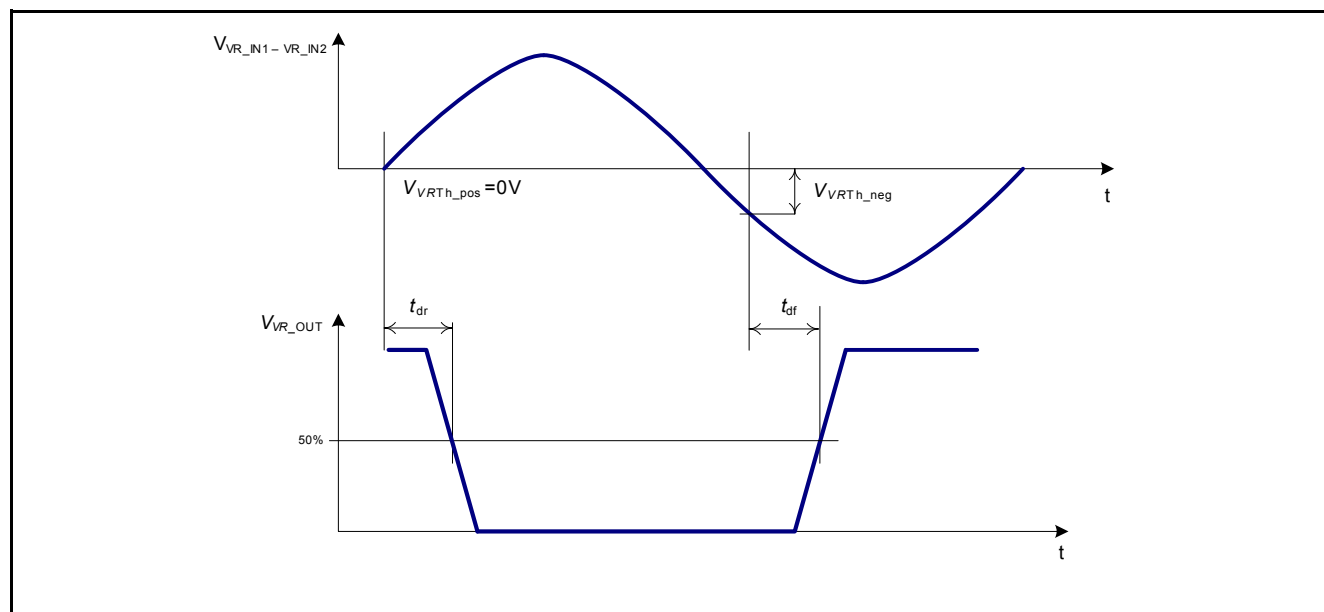

Figure 12 Timing Characteristics of the VR Sensor Interface
The variable reluctance (VR) sensor interface converts an output signal of a VR sensor into a logic level signal suited for μC 5V input ports. The voltage difference between the two input pins, **VR_IN1** and **VR_IN2**, which are connected to the two output pins of the VR sensor, is detected and the output pin **VR_OUT** is switched depending on the sign of the voltage difference (see Figure 12). The amplitude of the VR sensor signal is limited by an internal clamping circuit to avoid damage of the device due to over voltage caused by the VR sensor signal.